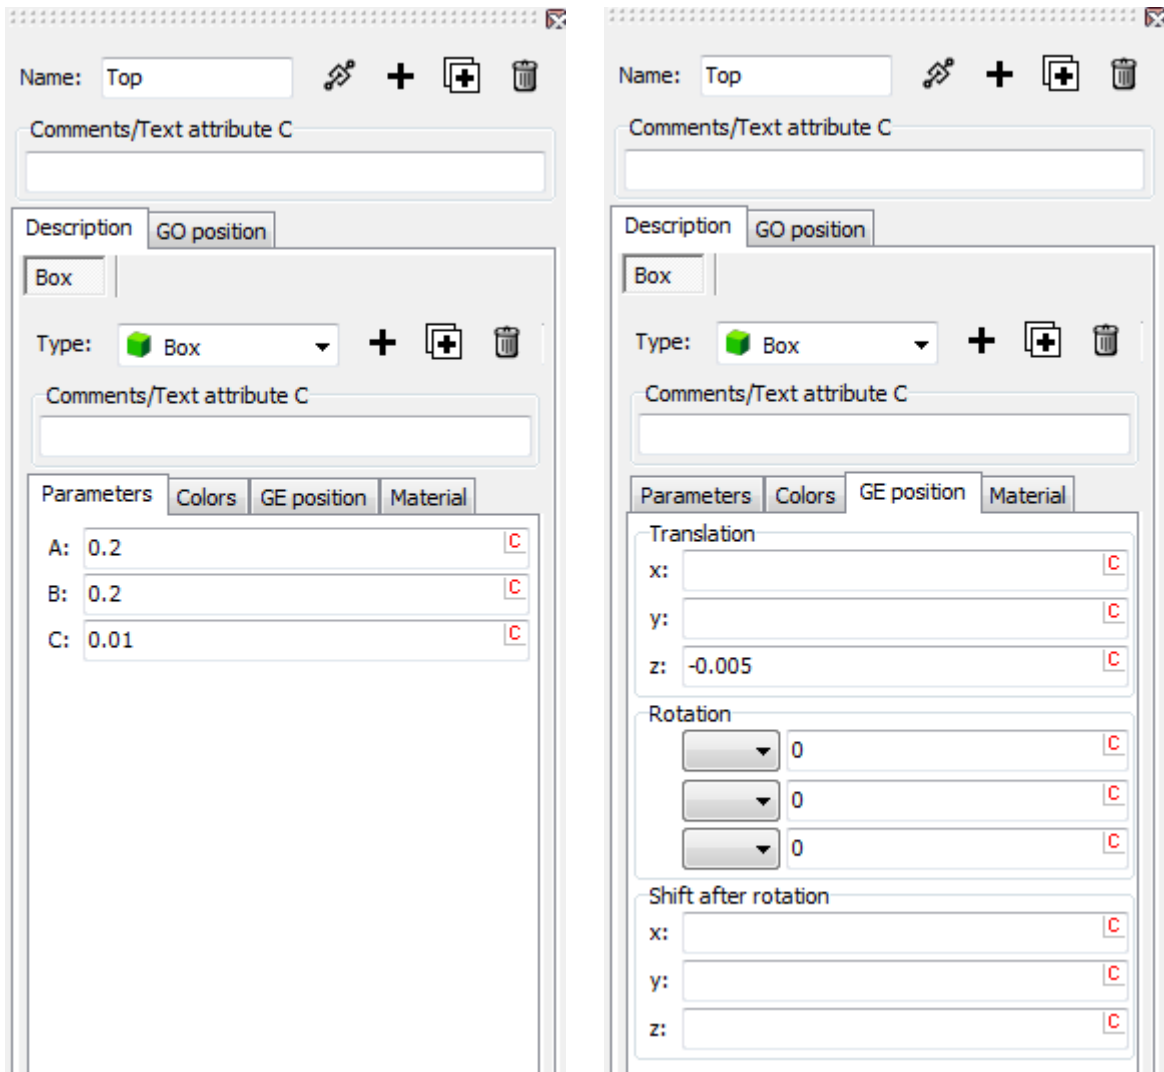

Figure 2.2. Creating the **Top** graphical object
4. Set parameters and GE position for the **Box** as it is shown in Figure 2.2.